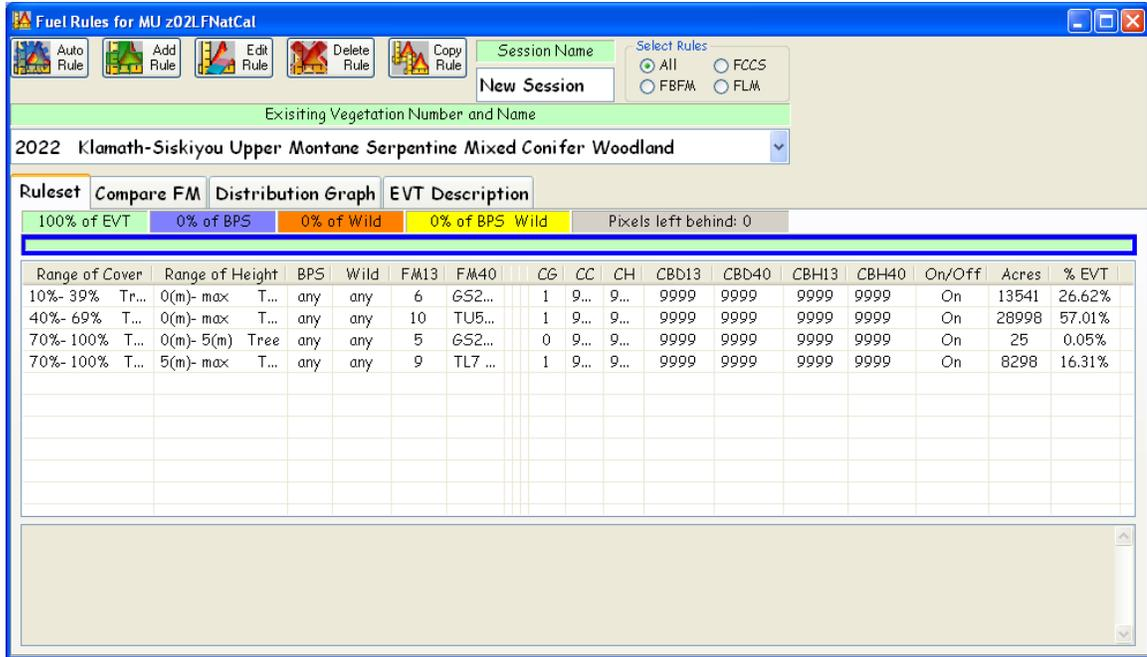

Figure 6-9. FUEL Rules dialog box.
The **Fuel Rules...** dialog box with the **Ruleset** page displayed will open (fig. 6-9).
- In the Fuel Rules dialog box (fig. 6-9), add a Session Name in the box provided if desired. (This step is optional).
- Use the radio buttons at the top right to “**Select Rules.**” To view all forms of rules accept the default section “**All.**” Other options include those applying only to FBFMs, FCCs, or FLMs (fig. 6-9). (See section 7.6.1 for more information).
- Use the drop-down window to select an appropriate “**Existing Vegetation Number and Name**” (fig. 6-9). (This selection allows the user to go directly to the desired EVT and provides information on the dominant species present and type of vegetation that occupies the site). (See EVT Description tab in section 7.6 for additional information).